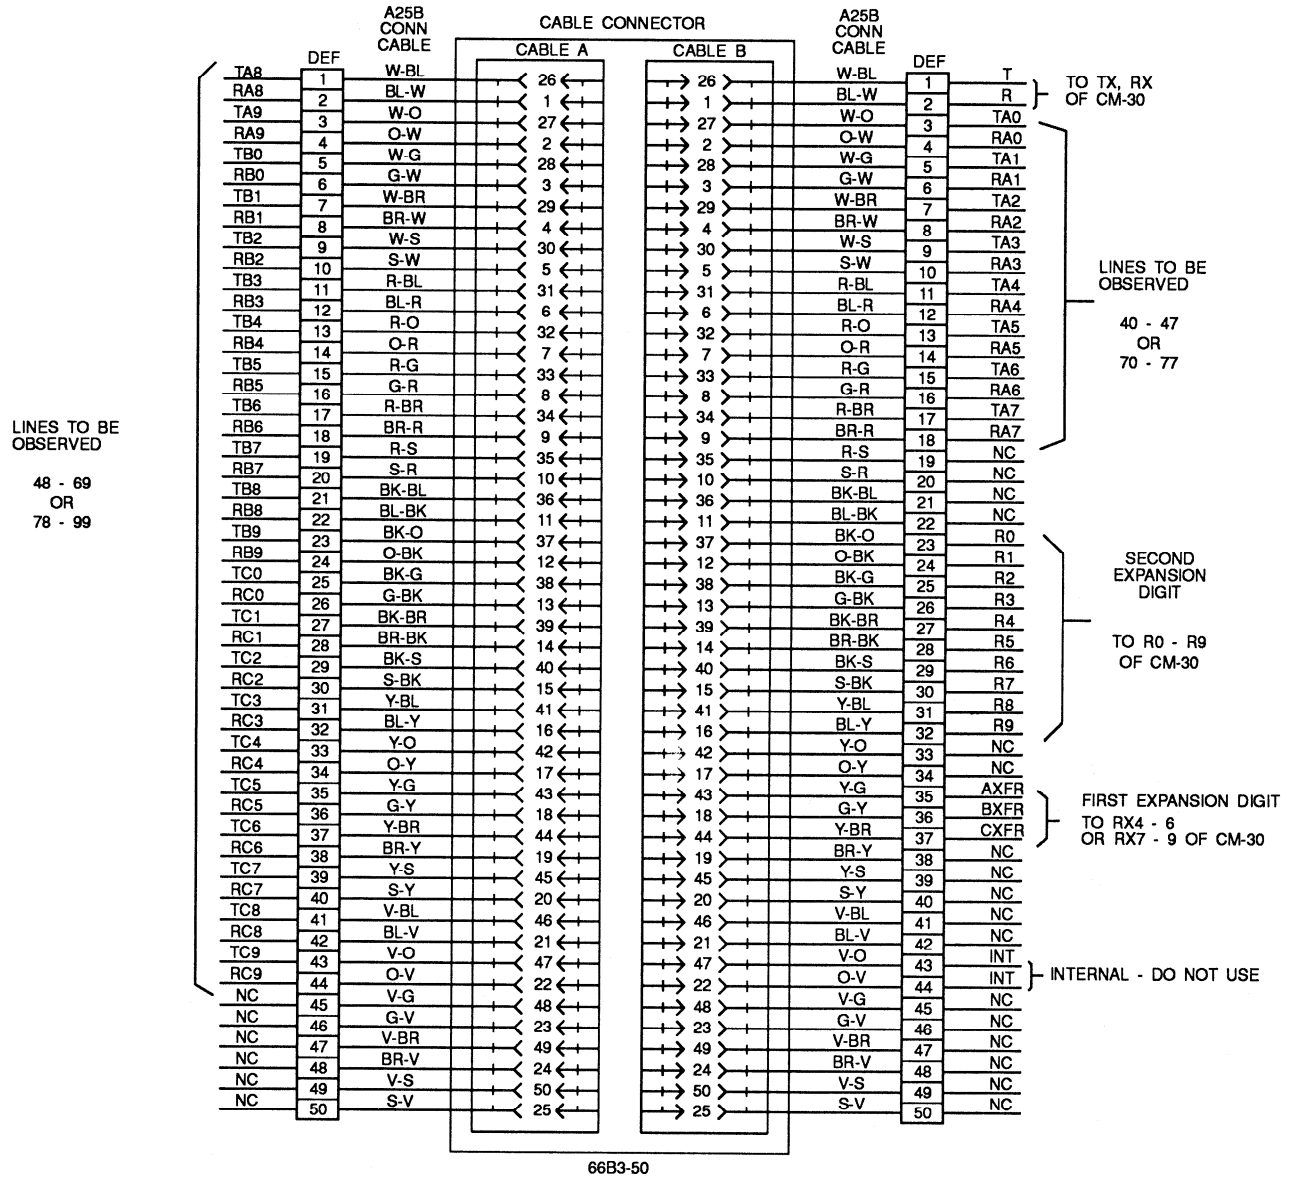

Fig. 2
- 4.2 Cross connect as shown in figure 2.